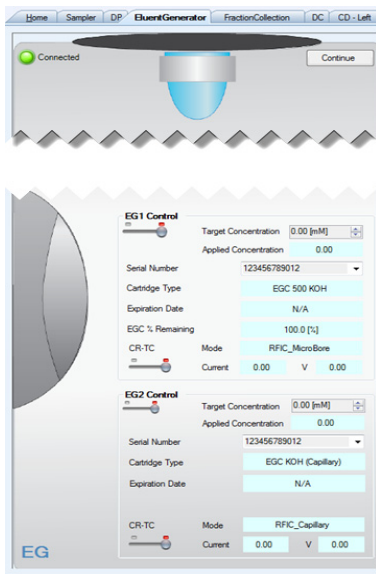

Figure 4-6. Example EG ePanel in Chromeleon
2. On the Chromeleon ePanel Set, click the **Eluent Generator** tab to display the Eluent Generator ePanel (see Figure 4-6).